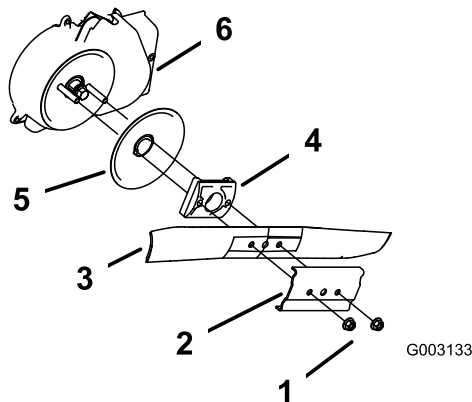

Figure 53
3. Remove the 2 blade nuts and the stiffener (Figure 53).
4. Remove the blade (Figure 53).
5. Remove the blade driver and disk (Figure 53).
6. Remove the blade brake clutch shield (Figure 53).
10. Install the blade and the stiffener that you previously removed (Figure 53).